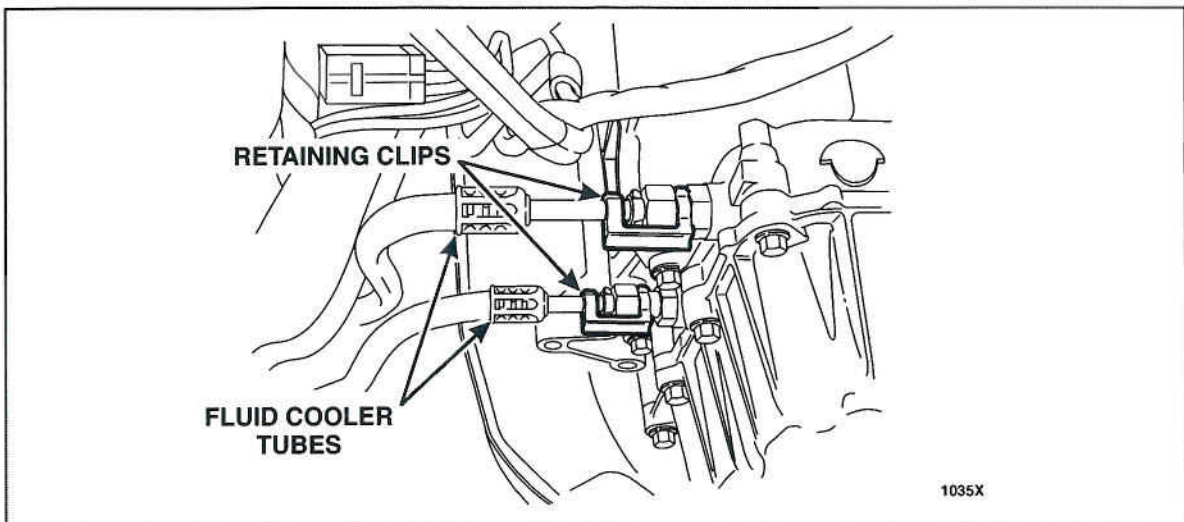

FIGURE 18
42. Remove the fluid cooler tube retaining clips. See Figure 18.
18. Install the fluid cooler tube retaining clips. See Figure 18.